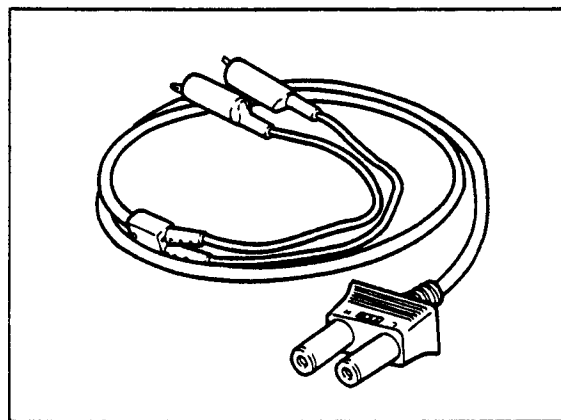

Figure 6-2. Measurement Lead.
- (6) Ground the ground terminal to a low resistance ground.
- (7) A measurement lead as shown in Figure 6-2 is supplied with the recorder. For measurement in DMM mode using CH13 (TREND/LOGGING Mode), use this measurement lead. For the safety of user and the object to be measured, the supplied measurement lead uses safety terminals – metal parts of terminals are not exposed.